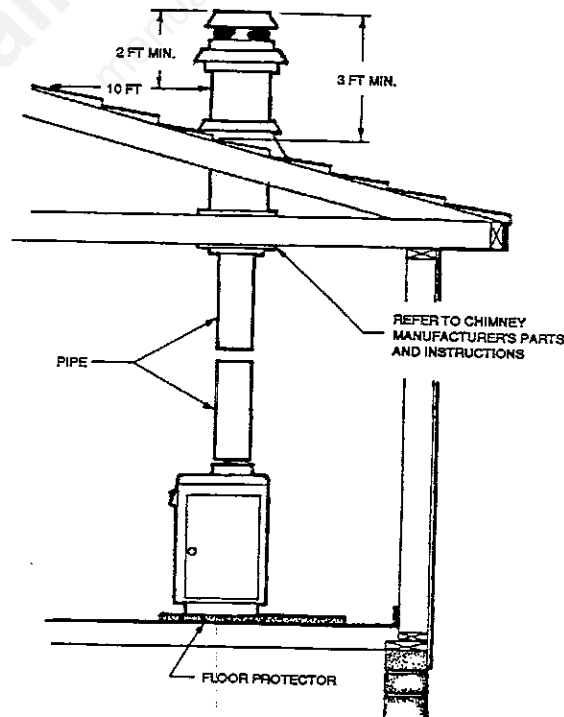

FIG. 6
If there is no chimney near where you wish to place the heater, you can use a UL Listed Residential Type and Building Heating Appliance Chimney (Fig. 6).
Carefully follow chimney manufacturer's instructions. Use only a UL Listed Residential Type and Building Heating Appliance Chimney. If your chimney starts at the ceiling (Fig. 6), you will need a 6" elbow and enough 6" pipe to reach the ceiling.
The top of the chimney must be at least 3 feet above the roof and be at least 2 feet higher than any point of the roof within 10 feet (Fig. 6).
5. If the fire burns well but sometimes smokes or burns slowly, it may be caused by the chimney top being lower than another part of the house or a nearby tree. The wind blowing over a house or a tree falls on top of the chimney like water over a dam, beating down the smoke. The top of the chimney should be at least 3 feet above the roof and be at least 2 feet higher than any point of the roof within 10 feet (Fig. 6)